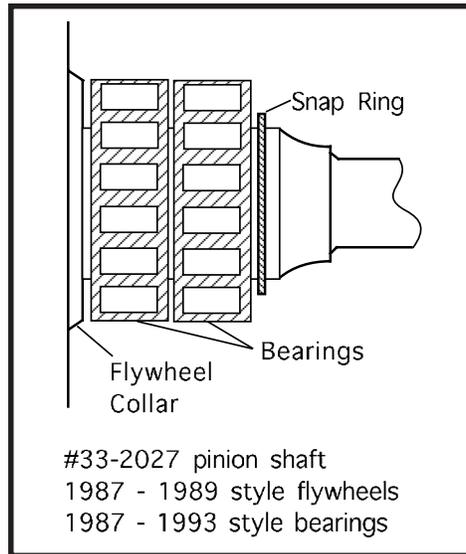

Figure 6
3. 1987 to 1989 stock flywheels or S&S SL or BL style flywheels for 1981 and later, and S&S pinion shaft #33-2027 - No thrust washers are normally used. Typical arrangement - Bearings against flywheel, and snap ring directly against bearing. **See Figure 6.**